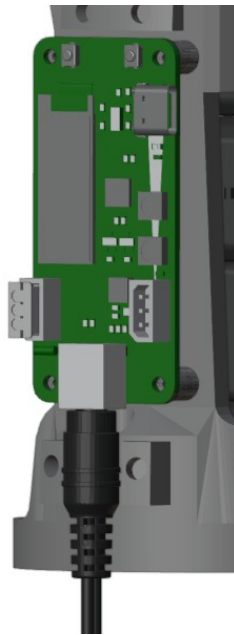

Figure 5.54:
2. Power the logic board using the power connector (ensure that the USB cable is disconnected) as shown in figure 5.54 .